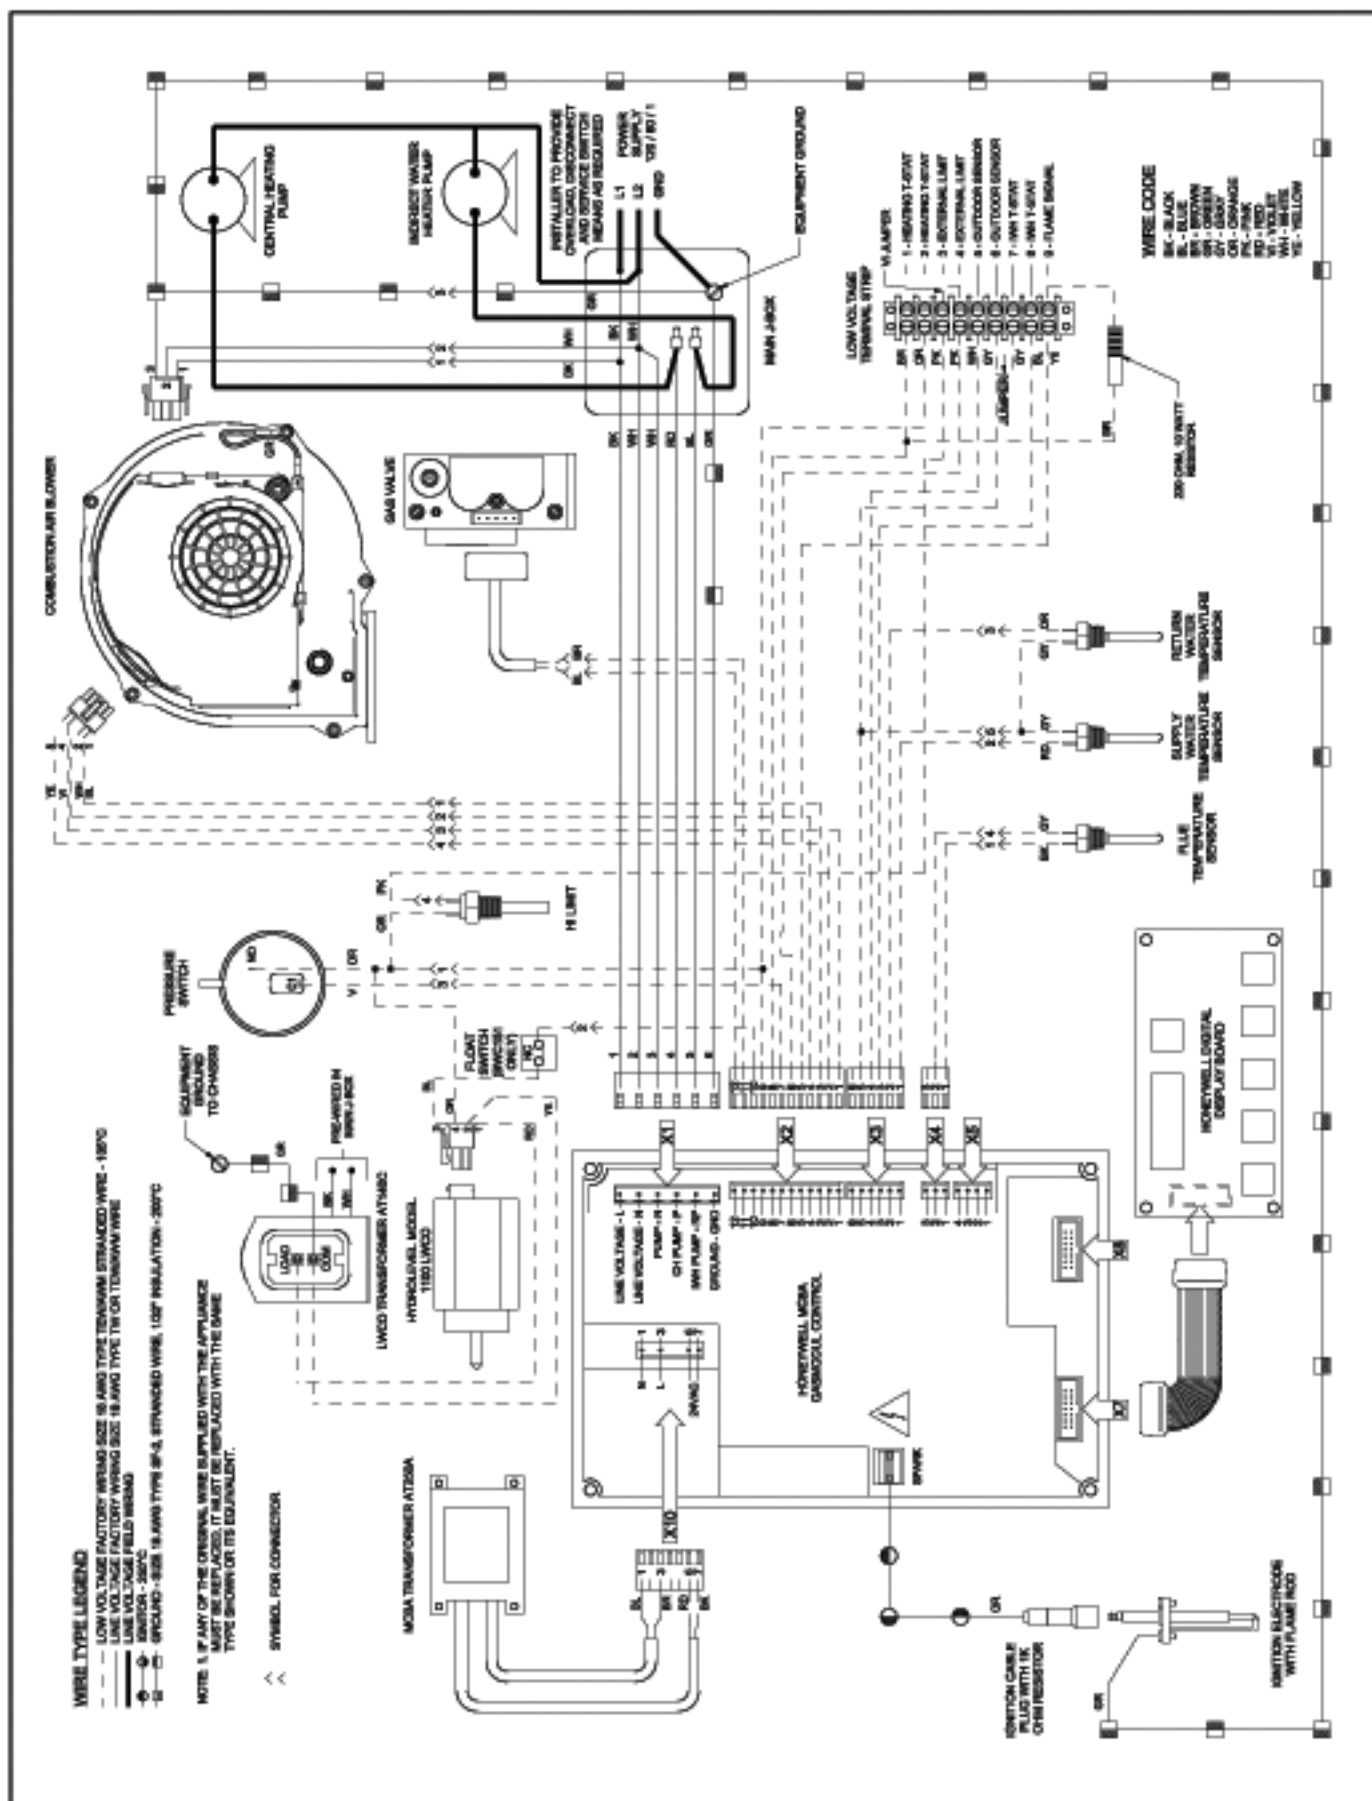

Figure 10.1: Wiring Connections Diagram
- 6) Manual Reset High Limit (Required by some codes) - This control is required by ASME CSD-1 and some other codes. Install the high limit in the boiler supply piping just above the boiler with no intervening valves. Set the manual reset high limit to 200°F. Wire the limit per Figures 10.1 & 10.2 in the Wiring section.
- 1) Line Voltage (120 VAC) Connections (Fig 10.1) – The line voltage connections are located in the junction box on the right side of the vestibule:
- 3) Low Voltage Connections (Fig 10.1) – These connections are screw terminals located on the terminal strip next to the junction box on the left: